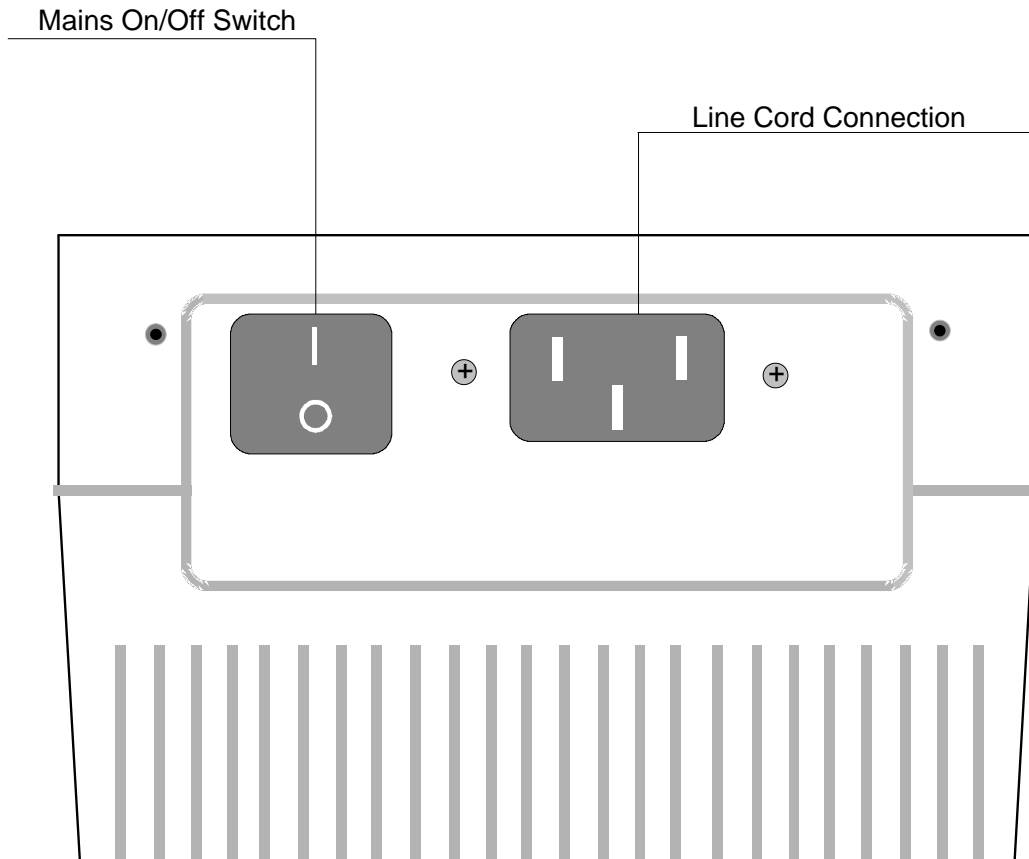

Figure 3.1 – Sys*Stim 226, Bottom view – Mains Power Switch and Line cord connection
1. Connect the line cord to the bottom of the Sys*Stim 226. (See Figure 3.1)